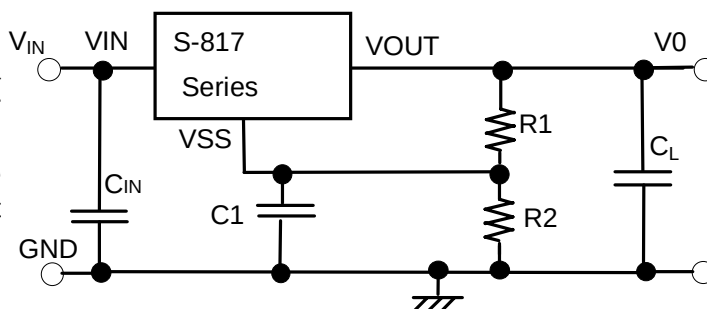

Figure 13 Voltage Adjustment Circuit
The output voltage can be boosted by using the configuration shown in Figure 13. The output Voltage V_o can be calculated using the following equation (V_{OUT} (E): Effective output voltage):